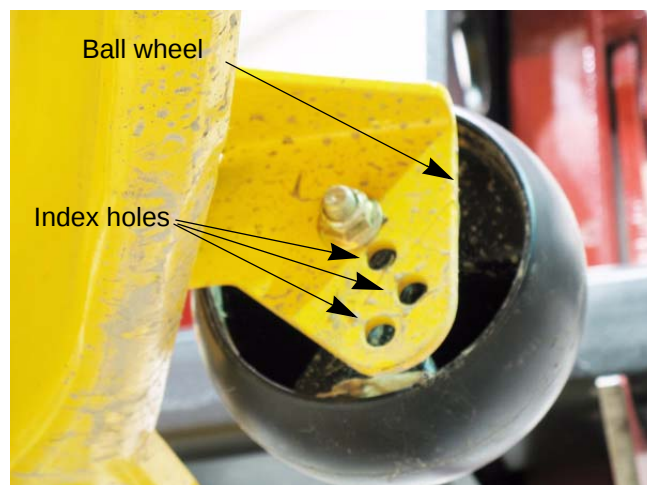

Figure 8.30
4. Reposition the wheel to align with the one of four index holes that places the wheel 1/4" to 1/2" above the ground. See Figure 8.30.